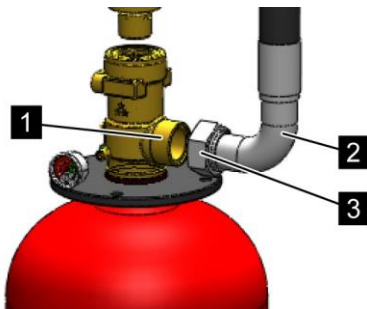

Fig. 64: Mounting the hose
Align valve outlet (Fig. 64/1) and cap nut (Fig. 64/3) of the hose (Fig. 64/2) or of the connecting piece (for version without hose) so that they are precisely flush.
8. ➔ Initially screw the cap nut (Fig. 64/3) of the hose (Fig. 64/2) or connecting piece (for the version without hose) to the valve outlet (Fig. 64/1) hand tight.